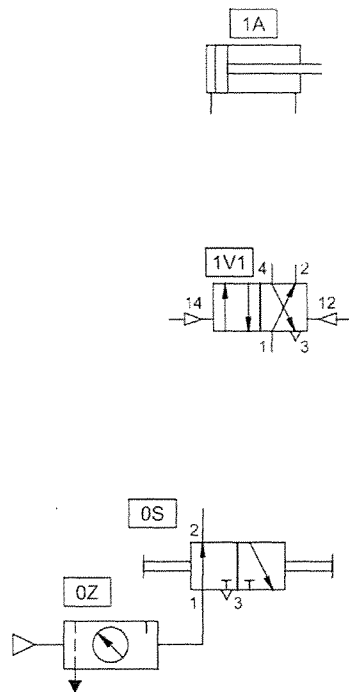

Figure Q3(c) (source: Pneumatics Basic Level, Festo)
c. Figure Q3(c) above is a memory circuit and cylinder speed control. In the answer booklet, copy and complete the diagram.